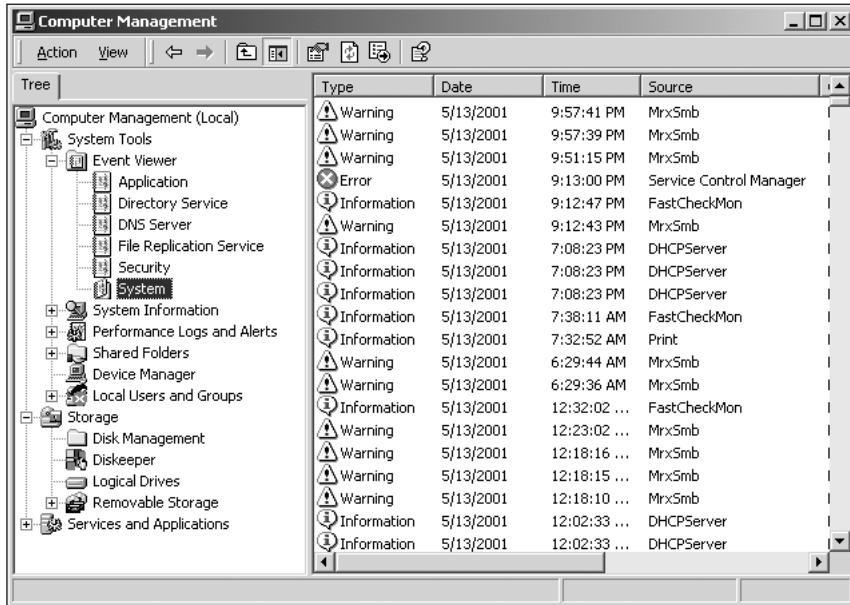

Figure 12-13 The Event Viewer categories with the System Event Viewer chosen
3. In the left pane, expand the **Event Viewer** underneath System Tools. You should see three or more log categories, depending on the role of the server. The server in Figure 12-13 is a Domain Controller and DNS server, so it has a few more logs than might otherwise be present. Otherwise, your screen should look similar to this.